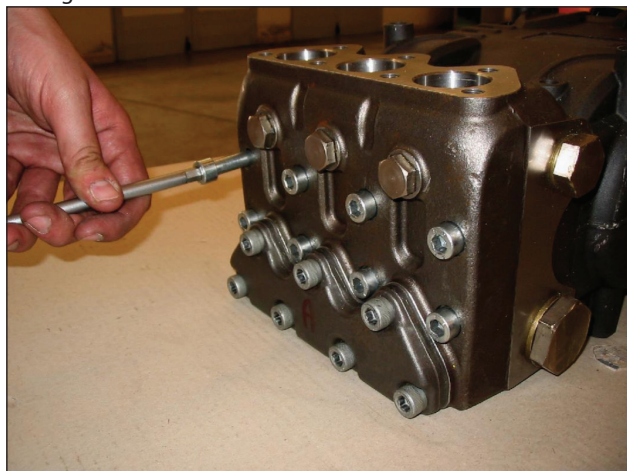

Fig. 20
- A) Unscrew the M10x110 head fixing screws as indicated in Fig. 20.